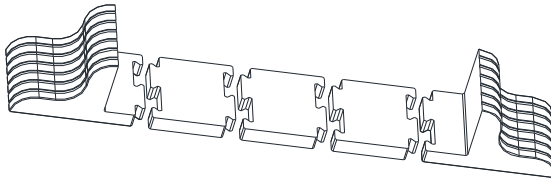

Fig.2-2 Installing support bases with spacers
Step 2: If optional external battery cabinets are connected to the UPS to provide additional battery run time, assemble the spacers and the support bases, as shown in Fig.2-2.